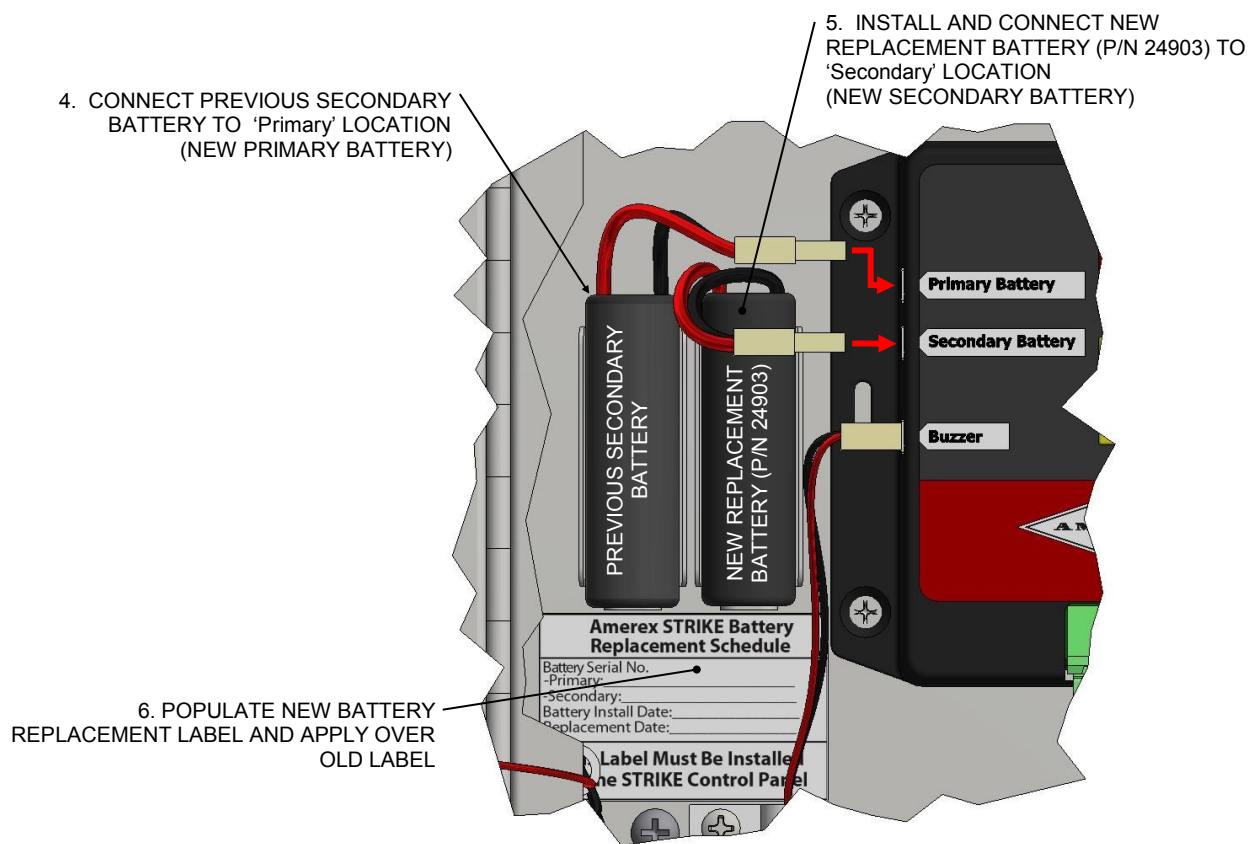

Figure 5.5c
5. Install a new Replacement Battery (P/N 24903) in the 'Secondary' bracket location on right. Connect to the 'Secondary' battery connection port (See Figure 5.5c). Verify the STRIKE™ Control Unit powers up and resumes normal condition with green 'System Normal' LED is flashing once every 4 seconds.
6. Each new Replacement Battery is supplied with a new Battery Replacement Label. Populate the new label and place over the old label (See Figure 5.5c).